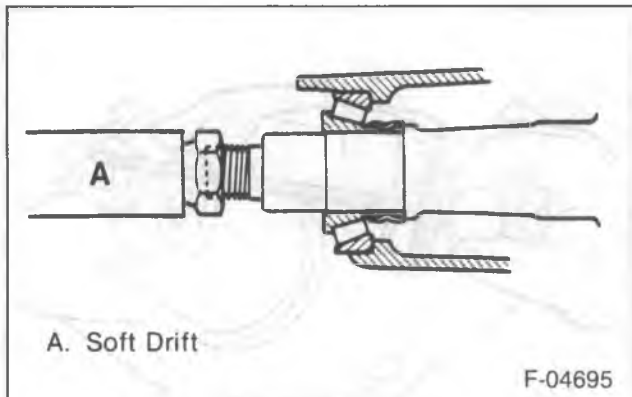
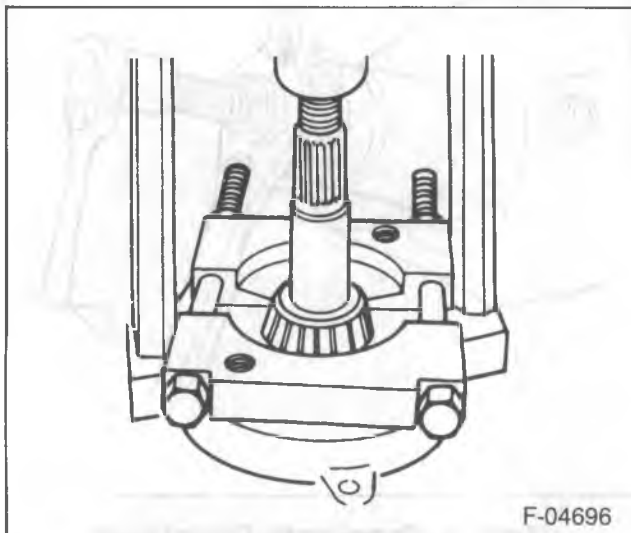

Figure 7—Removing the Drive Pinion
Figure 8—Removing the Pinion Rear Bearing
- Drive the pinion out of the housing with a hammer and a soft drift (figure 7).
- Remove the cover (25) and the pinion (15).
19. Collapsible spacer (11) from the pinion.
20. Outer seal (9) and outer pinion bearing (10).
21. Inner bearing (13) and shim (14) from the pinion.
- Press the bearing off the pinion using J 22912-01 (figure 8).
22. Bearing cups (10) and (13) from the axle housing using a hammer and a punch.